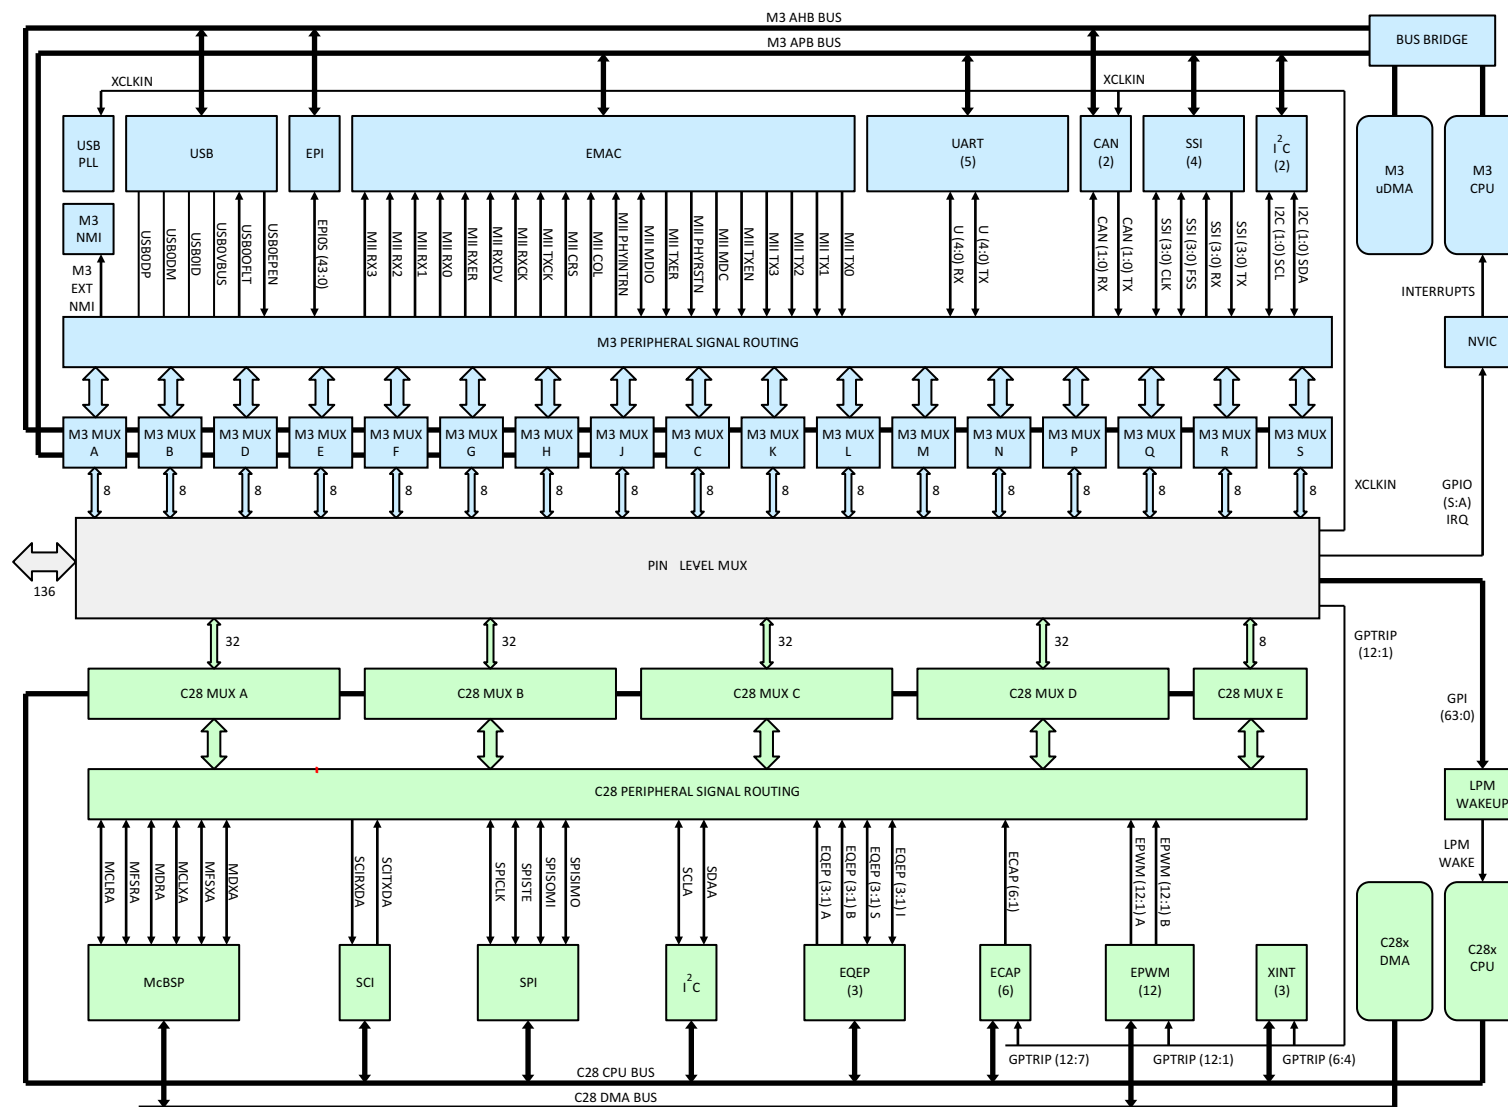
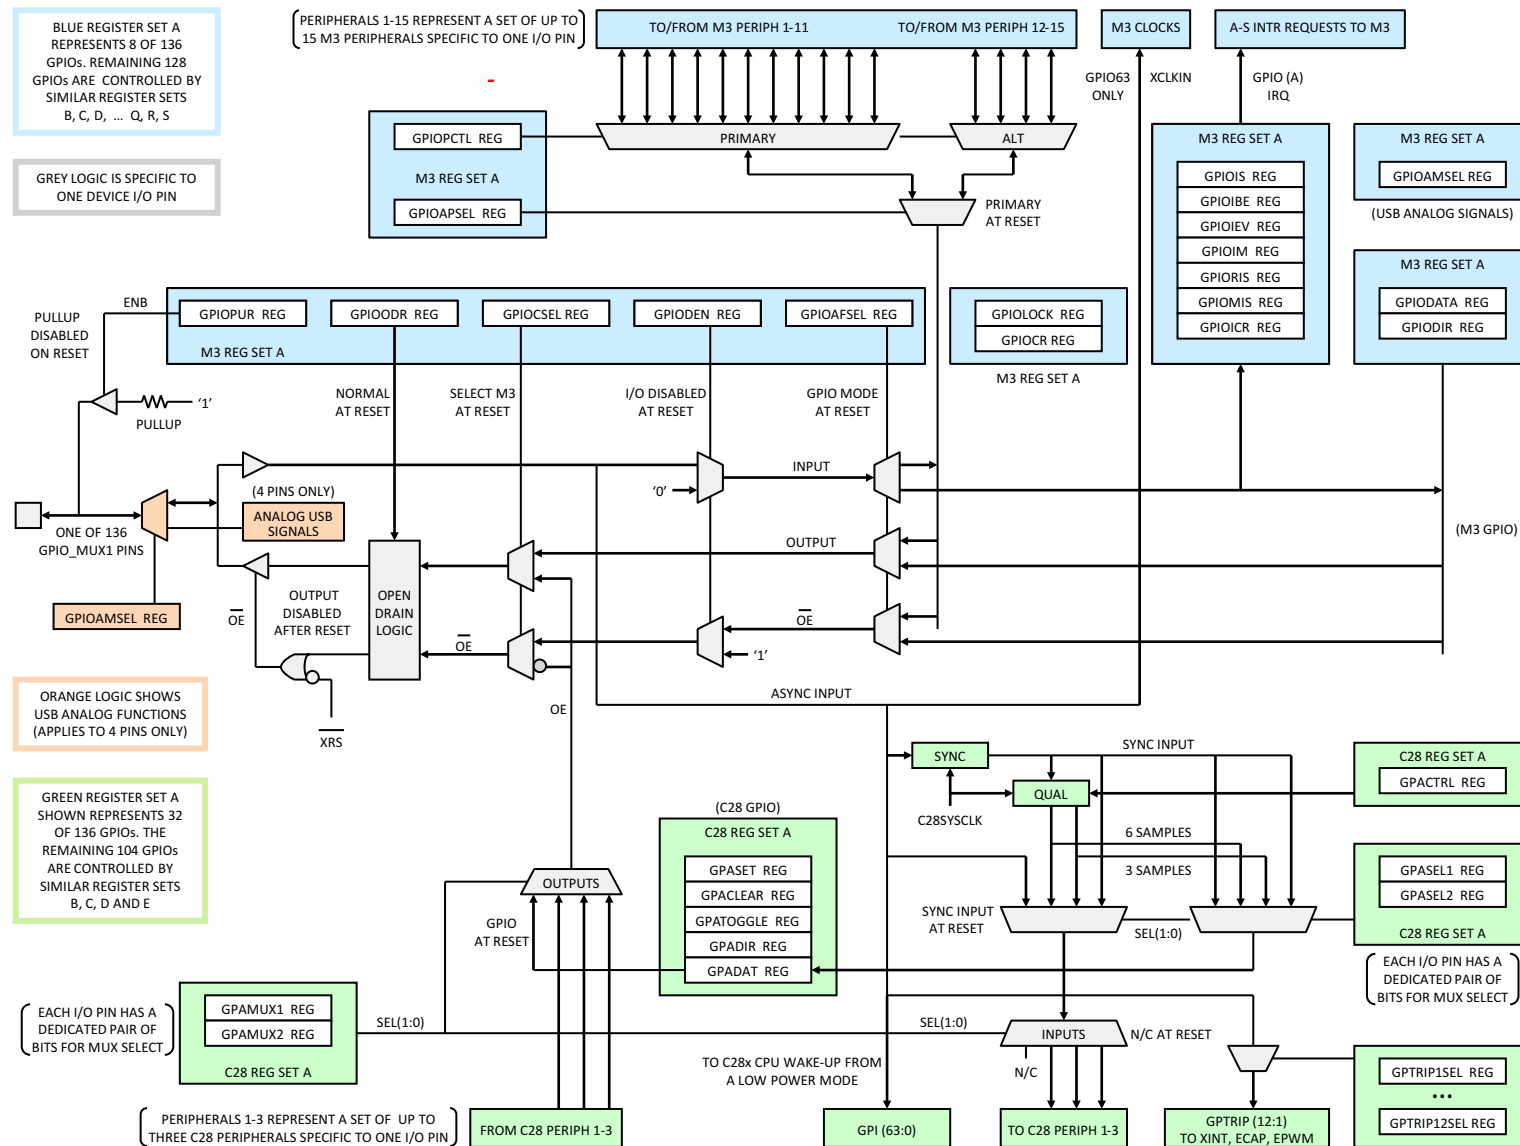

Figure 6-15. GPIO\_MUX1 Block
Figure 6-16. GPIO\_MUX1 Pin Mapping Through Register Set A
Figure 6-15 shows the internal structure of GPIO\_MUX1. The blue blocks represent the Master Subsystem side of GPIO\_MUX1, and the green blocks are the Control Subsystem side. The grey block in the center, Pin-Level Mux, is where the GPIO\_MUX1 pins are individually assigned between the two subsystems, based on how the configuration registers are programmed in the blue and green blocks (see Figure 6-16 for the configuration registers).
Pin-Level Mux assigns Master Subsystem peripheral signals, Control Subsystem peripheral signals, or GPIOs to the 136 GPIO\_MUX1 pins. In addition to connecting peripheral I/Os of the two subsystems to pins, the Pin-Level Mux also provides other signals to the subsystems: XCLKIN and GPIO[S:A] IRQ signals to the Master Subsystem, plus GPTRIP[12:1] and GPI[63:0] signals to the Control Subsystem. XCLKIN carries a clock from an external pin to USB PLL and CAN modules. The 17 GPIO[S:A] IRQ signals are interrupt requests from selected external pins to the NVIC interrupt controller. The 12 GPTRIP[12:1] signals carry trip events from selected external pins to C28x control peripherals—ePWM, eCAP, and eQEP. Sixty-four GPI signals go to the C28x LPM GPIO Select block where one of them can be selected to wake up the C28x CPU from Low-Power Mode. One-hundred and thirty-six (136) GPI signals go to the C28x QUAL block where they can be configured with a qualification sampling period (see Figure 6-16).
The configuration registers for the muxing of Master Subsystem peripherals are organized in 17 sets (A–S), with each set being responsible for eight pins. The first nine sets of these registers (A–J) are programmable by the Cortex-M3 CPU through the AHB bus or the APB bus. The remaining sets of registers (K–S) are programmable by the AHB bus only. The configuration register for the muxing of Control Subsystem peripherals are organized in five sets (A–E), with each set being responsible for up to 32 pins. These registers are programmable by the C28x CPU through the C28x CPU bus. Figure 6-16 shows set A of the Master Subsystem GPIO configuration registers, set A of the Control Subsystem registers, and the muxing logic for one GPIO pin as driven by these registers.